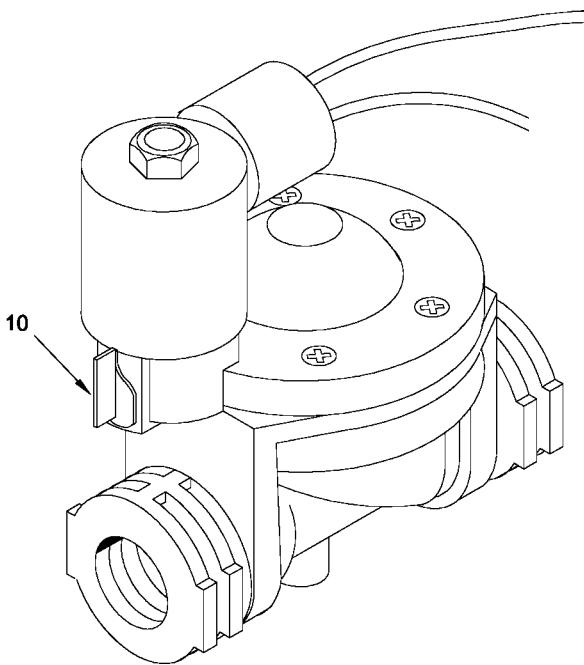

Figure 3-1. Controls and Indicators (View 3 of 3)
2. Open the receiver control box and set all three address switches (item 4, fig. 3-1) to the **RIGHT**.